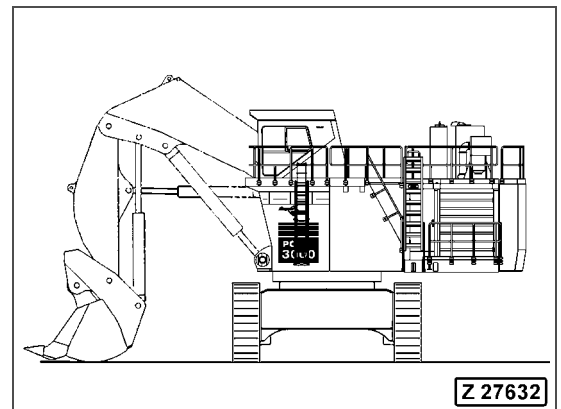

Fig. 5-148
- Park the machine on the prepared flat area with the superstructure turned by 90° and position the bucket on the ground as shown (Fig. 5-148).